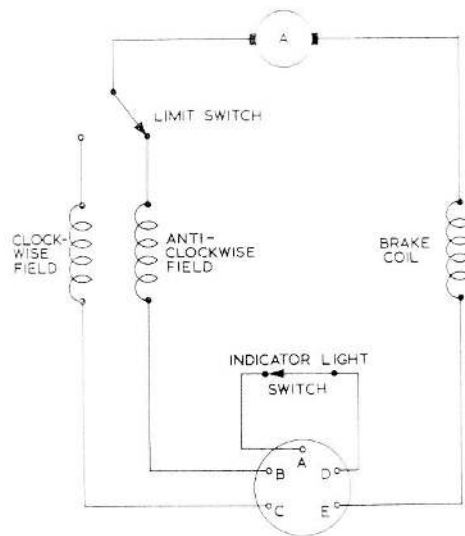

**Fig. 1. Sectional view of C5609 actuator**
1. The C5609 actuator (*fig. 1*) is similar to that described and illustrated in the main chapter, but has the following characteristic features : —